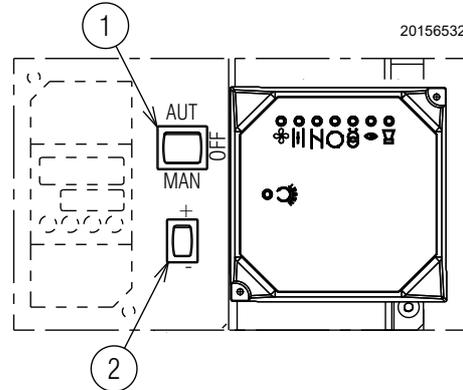

Fig. 31
Close the thermostats/pressure switches and set the switch 1)(Fig. 31) to **MAN**.
- place the switch 1)(Fig. 31) to "OFF" and wait for the control box to carry out the switching off phase;
Position the selector 1)(Fig. 31) on "MAN".
- Switch on the burner, with the selector on the control panel on manual 1)(Fig. 31).
- Having performed this first adjustment, increase the output by means of automatic return selector 2)(Fig. 31) on the control panel. Pause after a 15° rotation of the servomotor and carry out another adjustment using the variable profile cam of the air (cam 1 Fig. 35).
The passage from one position to the next one is obtained by pressing the selector 2)(Fig. 31) on the symbol (+) or (-).